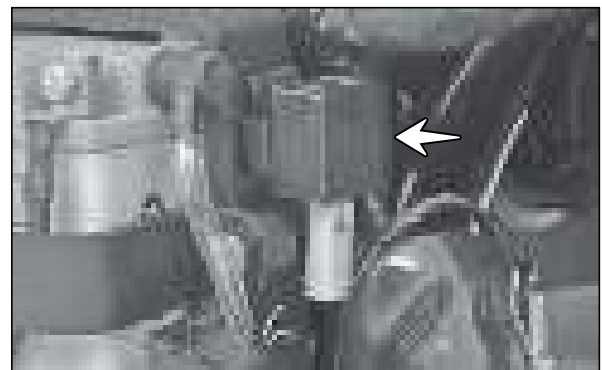

Fig. 5.24
- The DC output from the ignition lock is connected to the switch turn signal through a electronic flasher unit mounted below the seat assembly near the battery. (Fig. 5.24)